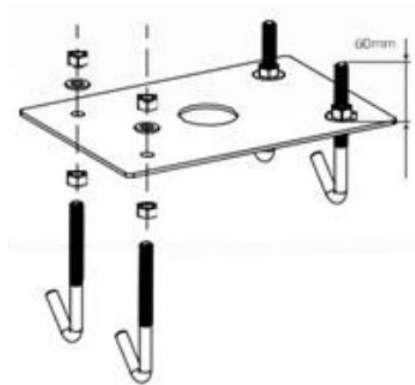

Figure 8.3
2. Put together the 4 anchoring brackets on the mounting plate and fasten with the 8 bolts provided (Figure 8.3)